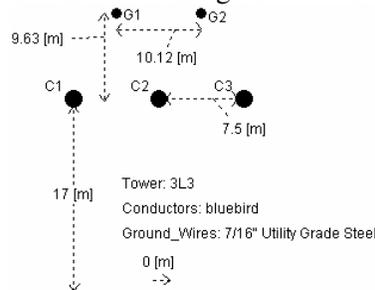

Fig. 4-8 A 345-kV, single-conductor per phase, transmission system.
1. Consider a 345-kV transmission line consists of three-conductor-flat towers shown in Fig. 4-8. This transmission system consists of a single-conductor per phase, which is a Bluebird ACSR conductor with a diameter of 1.762 inches. The *PSCAD/EMTDC* file for this 345-kV single-conductor line is **LineParameters.psc** (see video clip# 3), which is located in this folder. Double click on it to open it and execute it to calculate line constants. Compare the results with those given in Example 4-2.